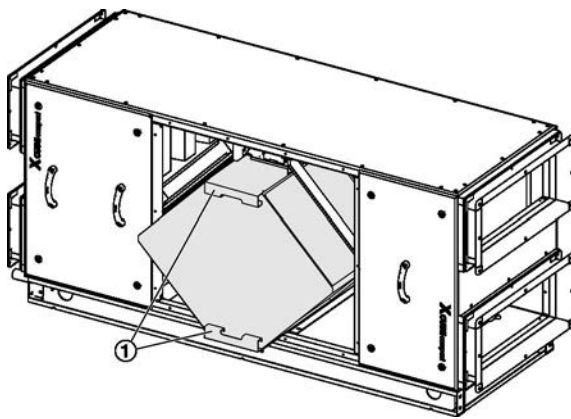

Fig. 57: Pulling out the plate heat exchanger
4. ▶ Pull out the plate heat exchanger by the handles (Fig. 57/1).